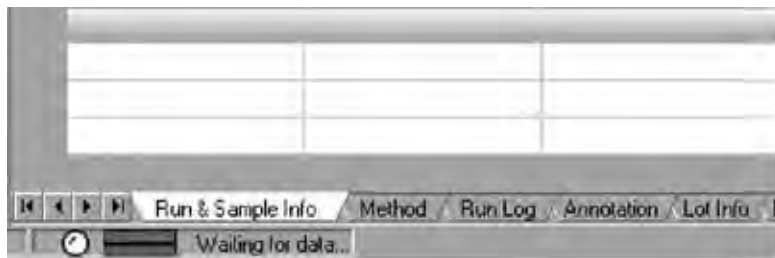

Fig. 6.33. “Waiting for data” message on the bottom of the Profinia software screen.
2. Open Profinia software on your computer by double-clicking on the desktop Profinia software icon. Look for the “Waiting for data” message in the lower left corner of the software screen. This indicates the instrument is communicating with the software and a run can be started (Figure 6.33).